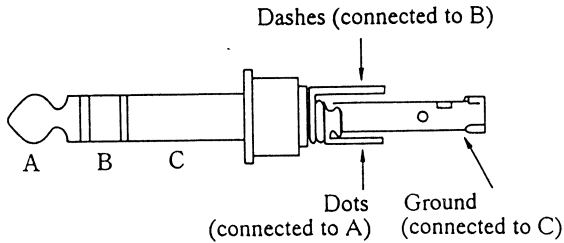

Figure 1-11 Connection of Electric Keyer
Connect a manipulator using a commercially-available 6.0mm-diameter plug, as shown in Figure 1-11. Then, turn on the ELECTRONIC KEYSER switch ⑥7.